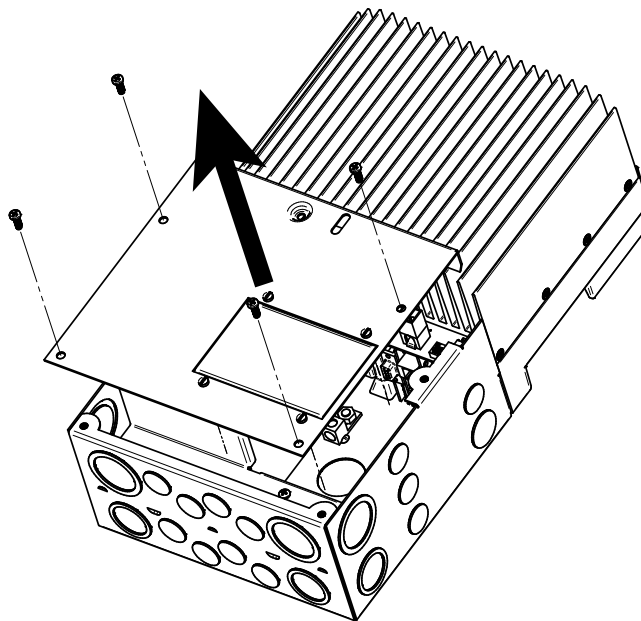

Figure 3-7. Remove the wiring box cover.
Use a #2 Phillips screw driver to remove the four (4) screws that secure the wiring box cover as shown in figure 3-7 below.